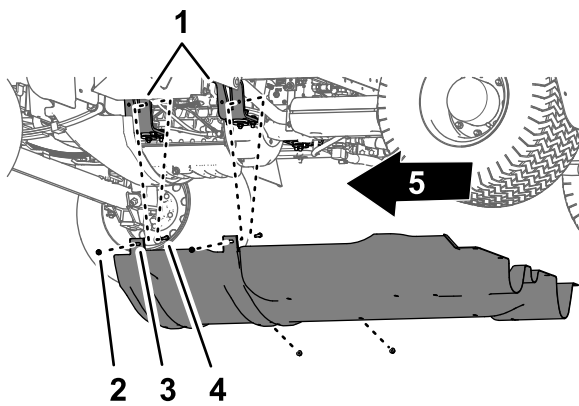

Figure 56
2. Remove the 4 flange locknuts (5/16 inch) from the bolts and carriage bolt that secure the mounting tabs of the undercarriage shroud to the engine-mount brackets of the machine (Figure 56).
4. Remove the undercarriage shroud from the machine (Figure 55 and Figure 56).
1. Align the undercarriage shroud to the bottom chassis of the machine; refer to Figure 56 in Removing the Undercarriage Shroud (page 48).
2. Move the mounting tabs of the undercarriage shroud over the bolts and carriage bolt at the engine-mount brackets of the machine; refer to Figure 56 in Removing the Undercarriage Shroud (page 48).
3. Assemble the undercarriage shroud to the engine-mount brackets and bolts (Figure 56) with the 4 flange locknuts (5/16 inch) that you removed in step 2 of Removing the Undercarriage Shroud (page 48).